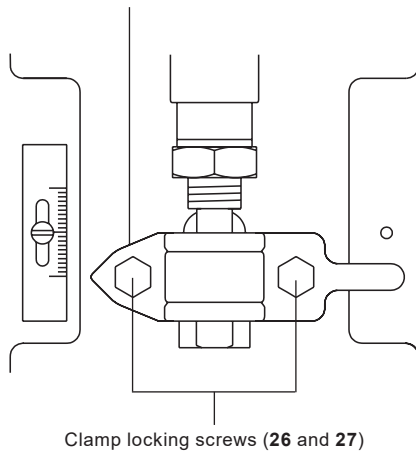

Fig. 5
- Apply the control signal pressure required to bring the spindle to mid-travel position (Figure 5). Place the actuator yoke over the valve spindle and locate it onto the bonnet shoulder. Hand tighten the mounting nut.
- Carefully release the control air signal. Fit the front and rear clamps (**13** and **14**) as shown in Figure 5.
- Carefully release the control air signal. Fit the front and rear clamps (13 and 14) as shown in Figure 5.
- Fit the front and rear clamps (**13** and **14**) as shown in Figure 5.